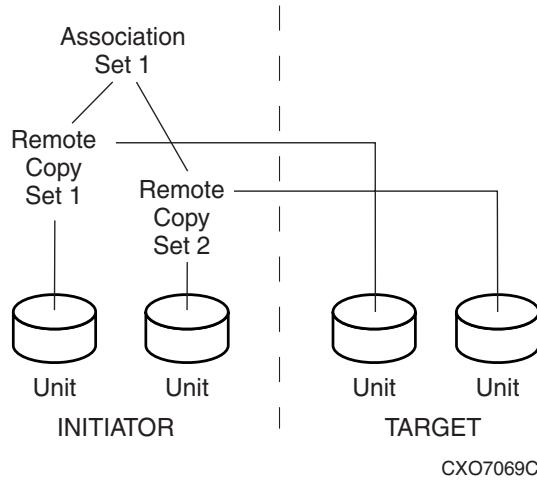

Figure 11: Location of association sets on the initiator dual controller
- Association sets reside on the initiator dual controller, as illustrated in Figure 11.